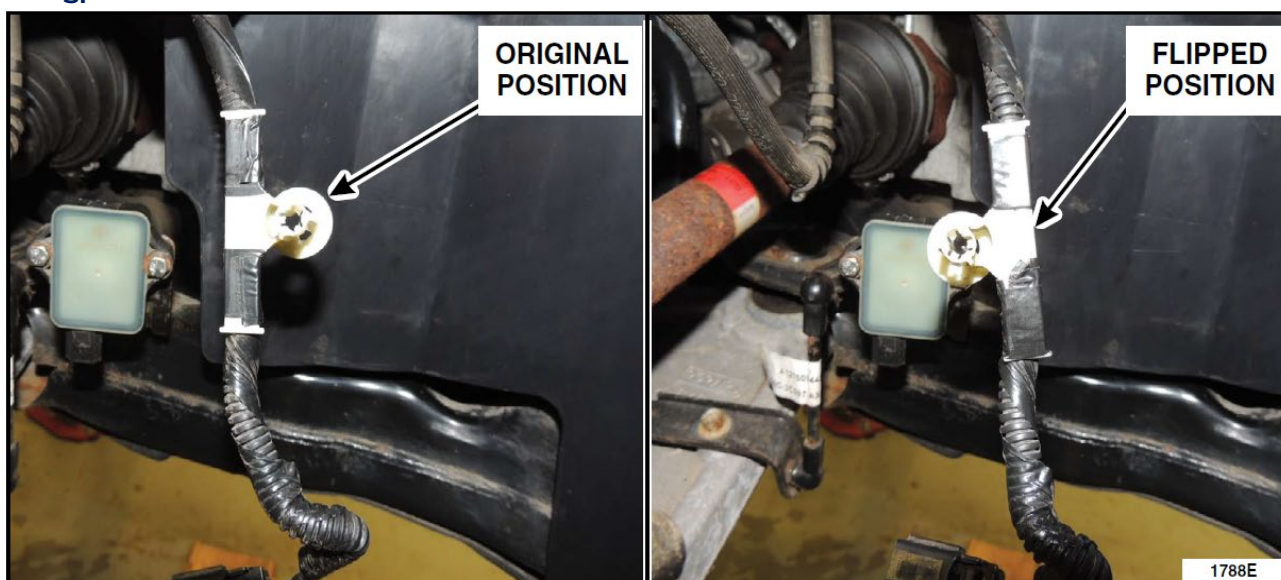

FIGURE 5
9. Mark the location of the clip on the ride height sensor's wire harness. See Figure 5.
10. Remove the tape and clip from the ride height sensor's wire harness. Rotate the clips 180 degrees and reinstall onto the ride height sensor's wire harness with electrical tape. See Figure 5.